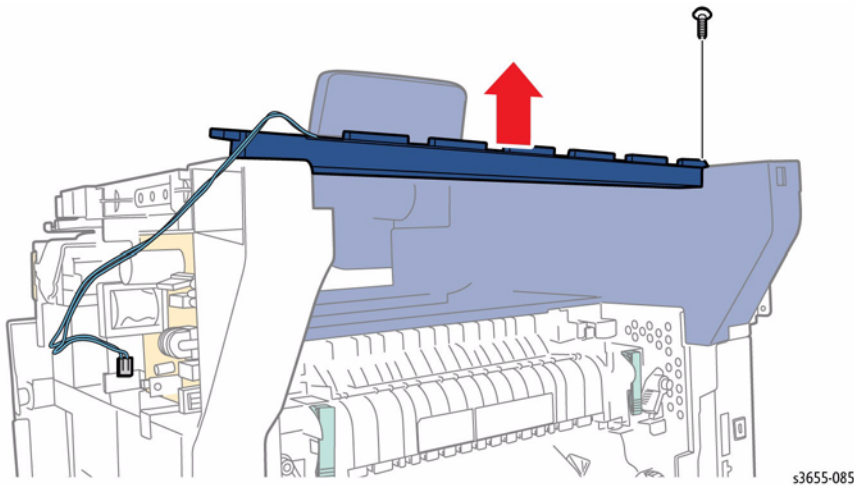

Figure 5 Remove the SubLV Harness Guide
22. Refer to Figure 5 and remove one screw (silver, tapping, M3, 8mm) and raise the SubLV Harness Guide off the boss at each end to remove.